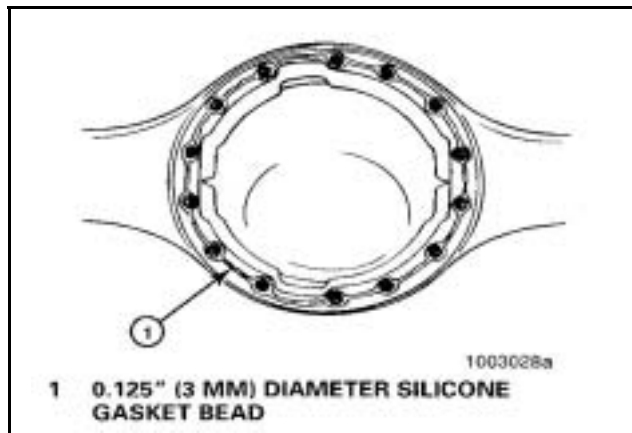

Figure 46
4. Apply 0.125 inch (3 mm) diameter continuous bead of the silicone gasket material around one surface. Also apply the gasket material around the edge of all fastener holes on that surface. **Figure 46.**